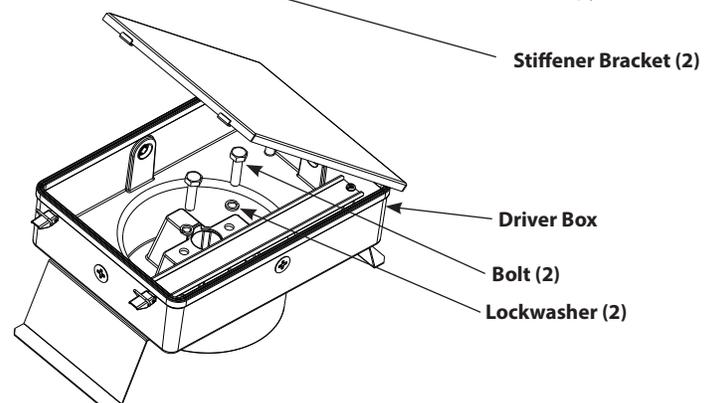

Fig. 3
5. Secure **Driver Box** on **Housing** by tightening **Bolts (2)** along with **Lockwashers (2)** as in **Fig. 3**. Apply torque of 120-130 in.lbf (13.56-14.69 N.m). Be sure gasket is in place.
6. **Stiffener Brackets (2)** prevents sagging of **Canopy Deck**.
7. Feed supply wires through one of the **Plugs (4)** to make electrical splices in **Driver Box**. Use appropriate UL approved wire connectors as required by code to complete wiring.